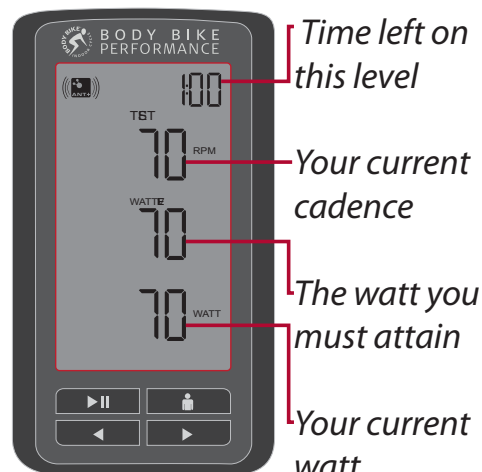

Figure 39
- 4: The top figure is your cadence. This should be as close to 70 as possible, see figure 39.
you need to attain and the bottom figure is how many watt you are currently performing, see figure 39. Adjust the tension until you attain the watt announced in the middle figure. The arrows at the bottom left of the screen will tell you if you need to add more tension or release tension.
tension to fit again. You can follow the time in the top right corner of the display, see figure 39.